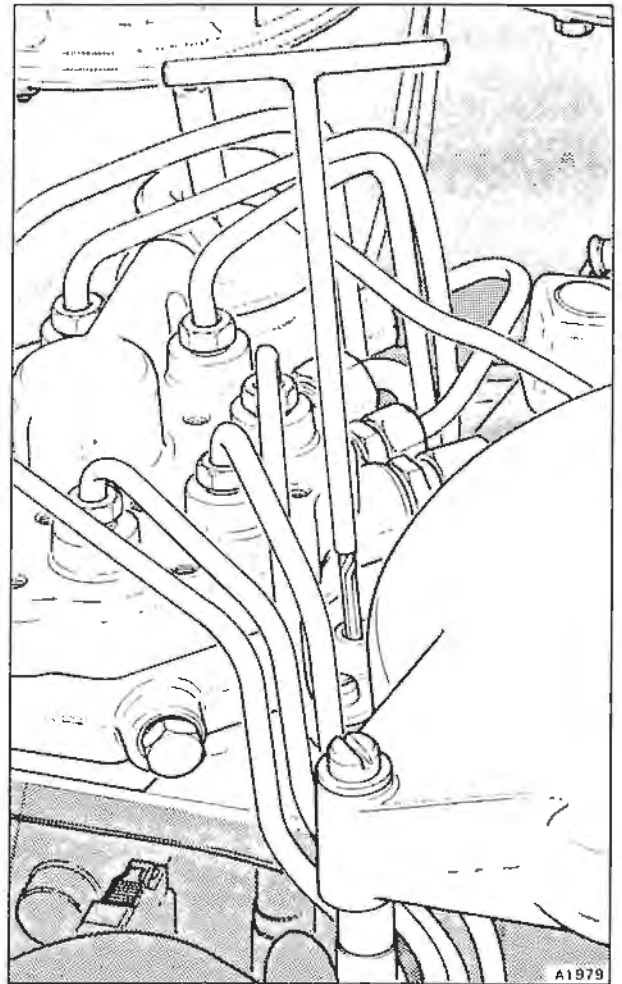

Fig. B3-42 Adjusting the idle mixture strength
4. If the CO reading is outside the specified limits, remove the tamperproof plug and blanking screw from the fuel metering unit (see fig. B3-42).
Tamperproofing of the mixture strength adjusting screw is carried out by screwing a small blanking plug into the mixture strength adjusting screw access hole (see fig. B3-42), above the actual adjusting screw.